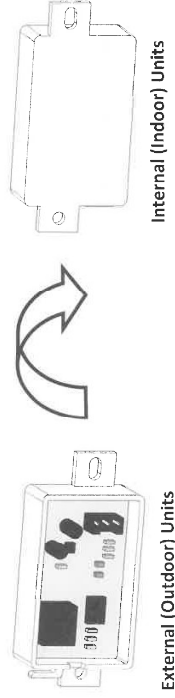

Figure 3: Switch Circuit Board
5. For internal units, flip the **switch circuit board** to where the circuit board side will be facing the inside of the unit (Figure 3).